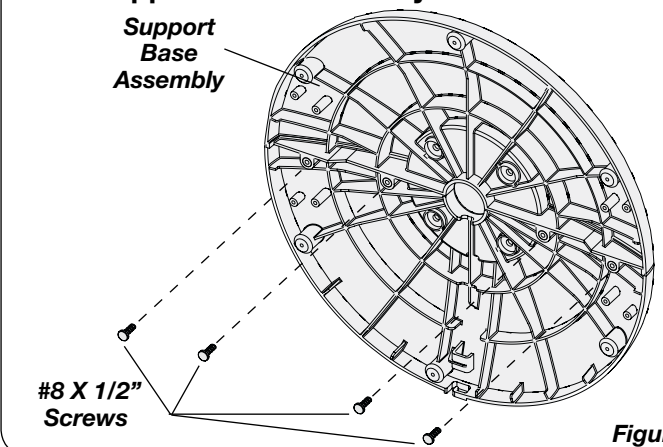

Figure 3
5. Secure the (4) #8 X 1/2" Screws into the four holes in the bottom of the base. (Figure 3)